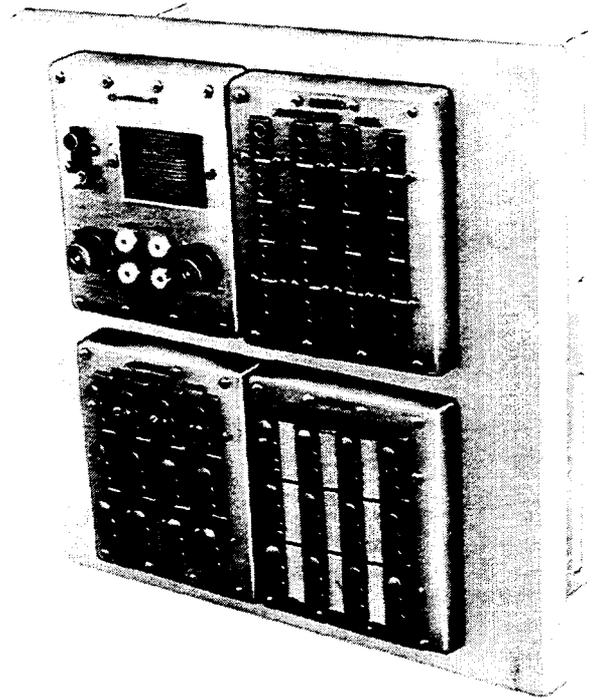
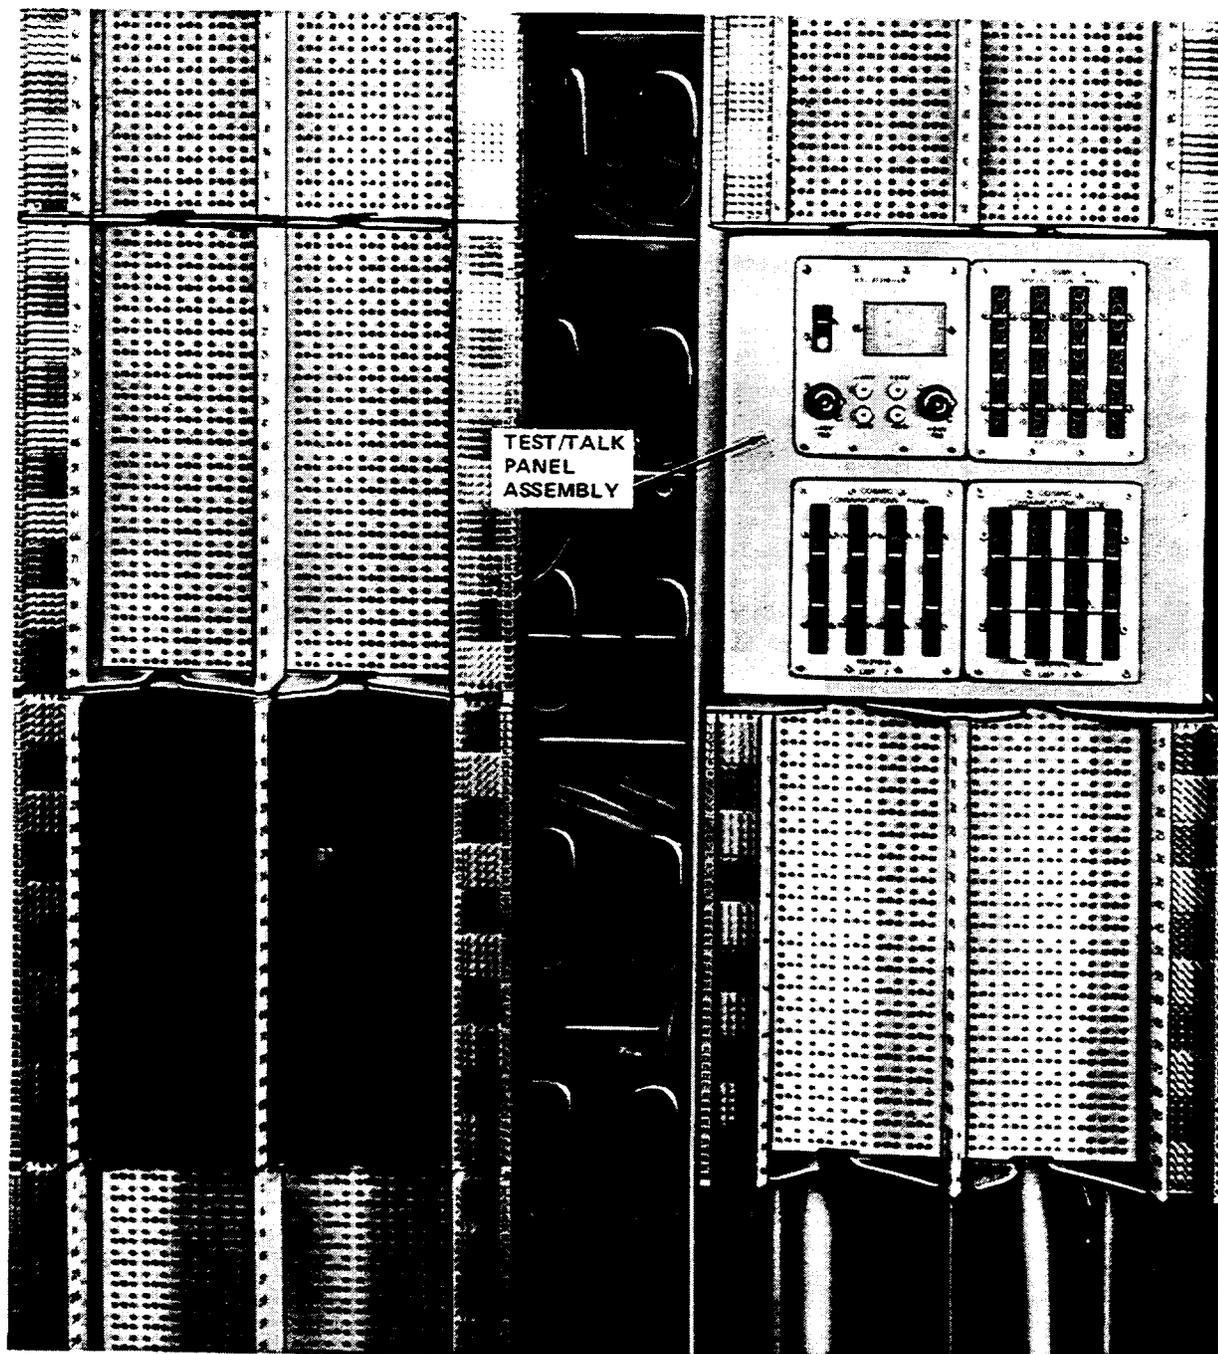

Figure 31—Miniature Test/Talk System Panel Assembly
Figure 32—Mounted Miniature Test/Talk System
8.01 The miniature test/talk system can be arranged with the 309-type connector on the new frameworks. An 844690982 panel assembly, which accommodates four test/talk panels, is available for mounting in the frame vertical space devoted for one 309-type connector. The bracket is intended to contain one transmitter assembly, KS-21316, List 8, and, depending upon the options desired by the individual central office, up to three jack panels, KS-21316, List 3 (Figure 31). The test/talk assembly is mounted on the frame vertical between the sixth and seventh horizontal shelves (from the floor) of the ED-97754-74 LPCDF (Figure 32) and between the fifth and sixth horizontal members of the ED-97755-72 LPDPF. Drawing ED-6C111-10 will be updated to show the location and mounting of the miniature test/talk assembly on the LPCDF and LPDPF with 309-type connectors. Specifications are listed in drawings ED-6C110-10 and ED-6C111-11.